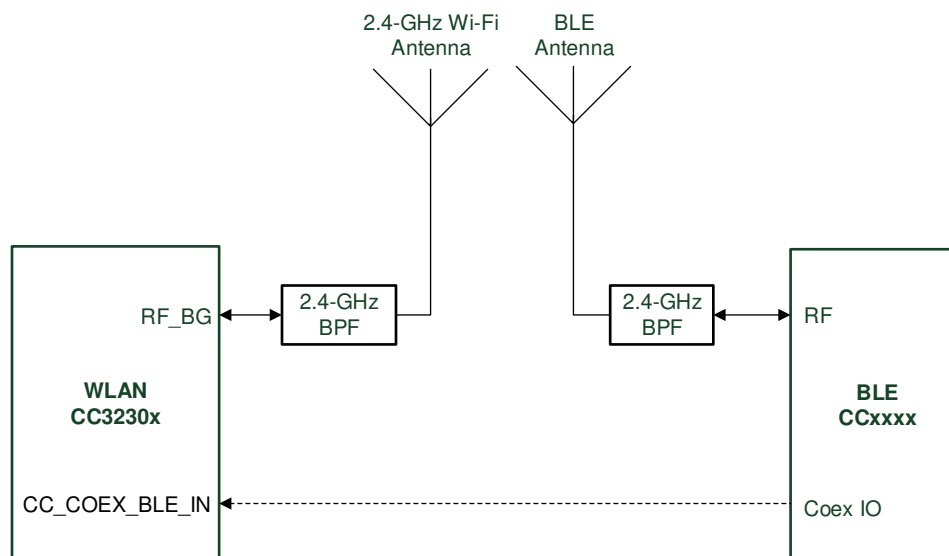

図 9-2. Dual-Antenna Coexistence Mode Block Diagram
- In this mode, (see Figure 9-2) the two entities have separate antennas, no RF switch is required, and only a single GPIO (on input from the WLAN perspective).
図 9-2 shows the dual antenna implementation of a complete Bluetooth low energy and WLAN coexistence network. Note in this implementation no Coex switch is required and only a single GPIO from the BLE device to the CC3230x device is required.